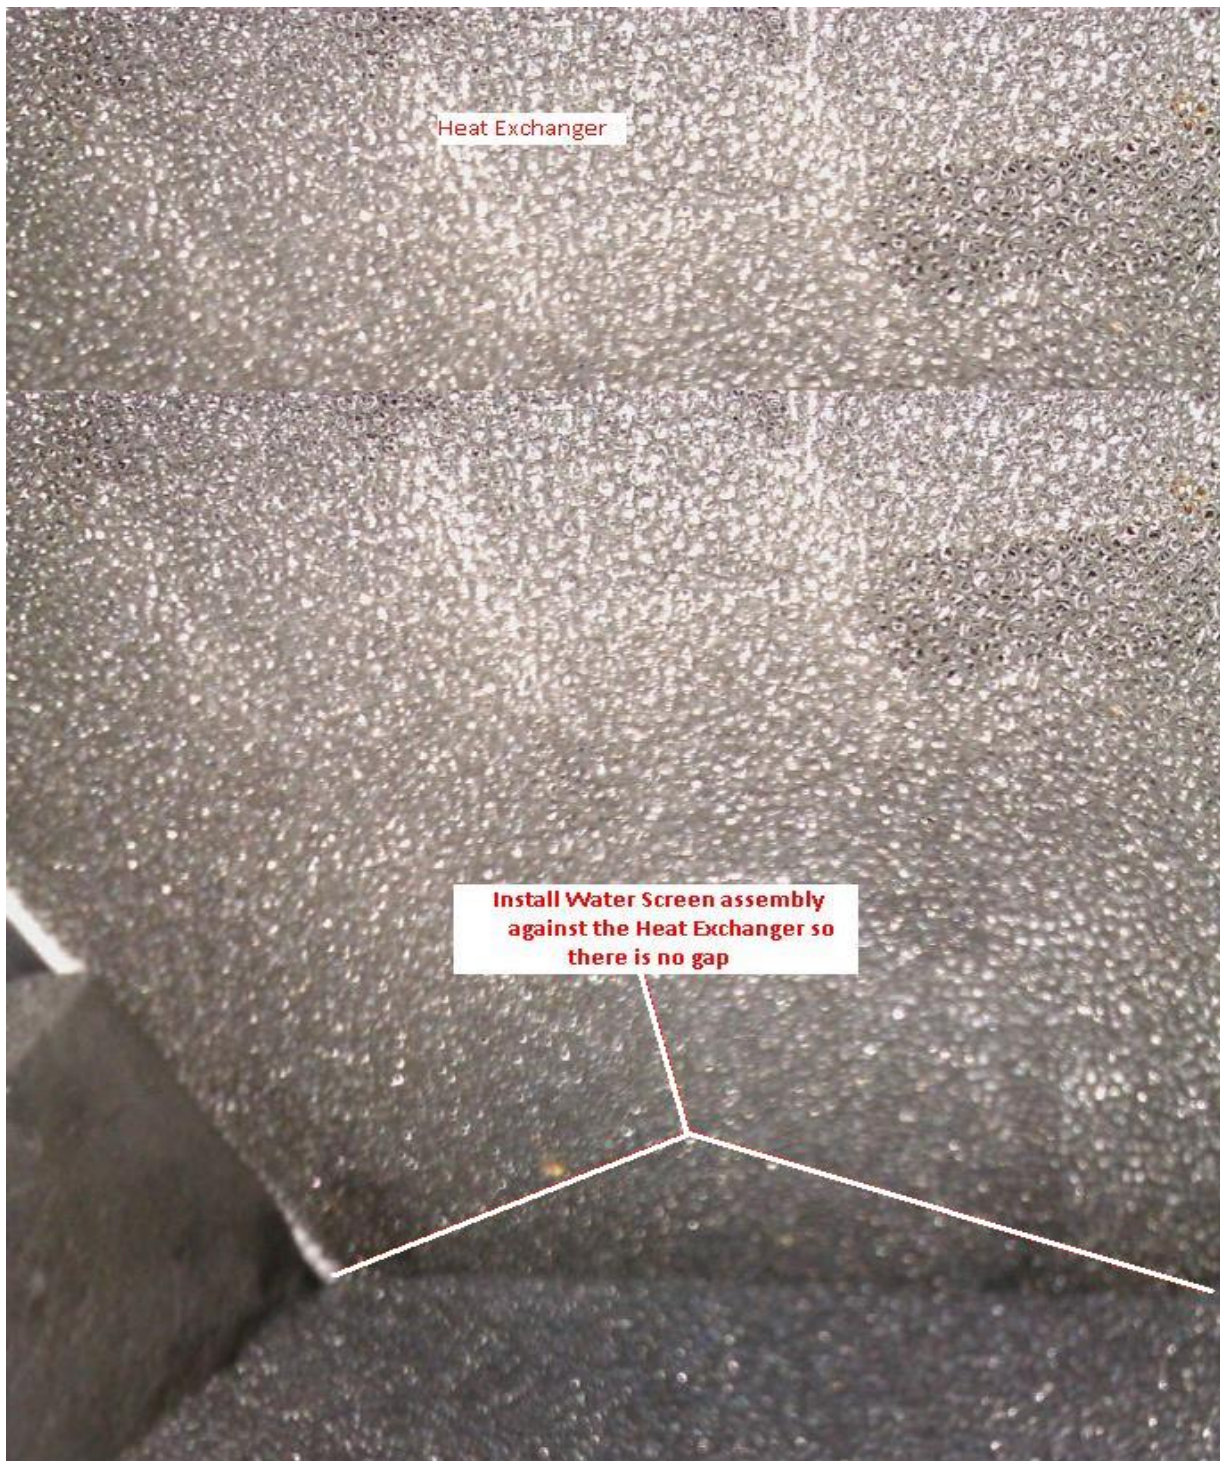

Figure 13: 429EC-6242-1 Water Screen Assembly Shown Against ES04122-1 Heat Exchanger Water Screen
- 12) Ensure 429EC-6242-1 water screen assembly is seated fully against the existing ES04122-1 water screen material on the aft side of the heat exchanger. (Figure 13)